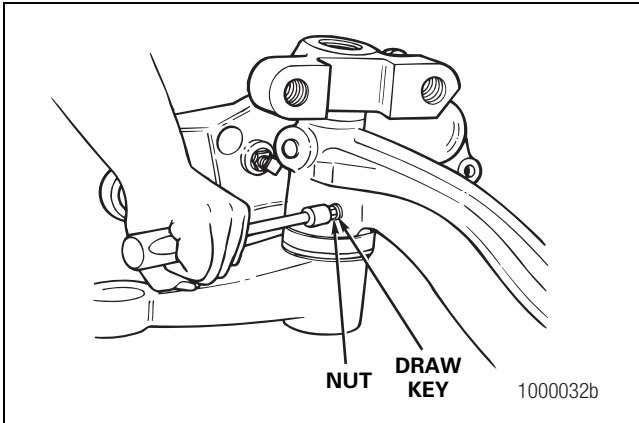

Figure 4.22
- B. Remove the nut from the draw key. Figure 4.22. Remove the draw key from the knuckle.